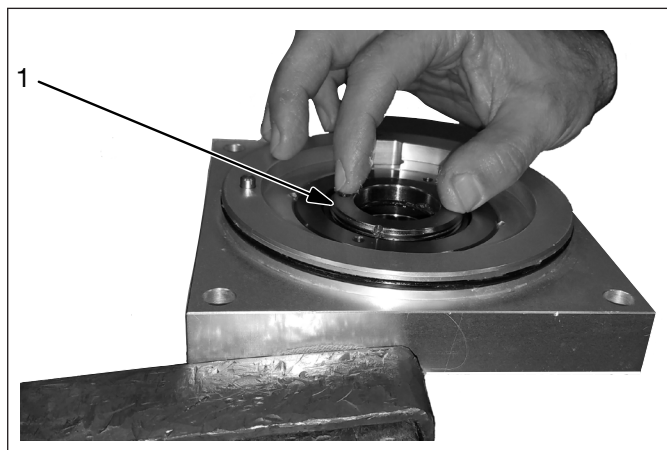

Figure 8, Stop Ring, Guide Ring and O-ring (View 1 of 2)
- Using a spanner wrench, remove stop ring, guide ring, and O-ring (Figure 8, Item 1) from end cap assembly.
- Install U-cup (Figure 8, Item 1) in end cap.